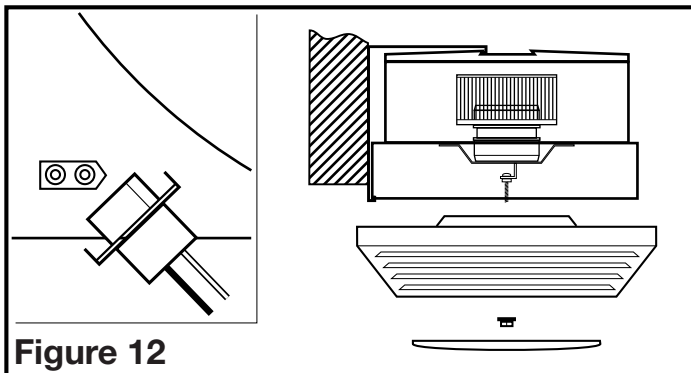

Figure 12
4. After the reflector bolt is secure, raise the grill/reflector up into position and plug the reflector into the appropriate receptacle. Secure the assembly to the reflector bolt using the acorn nut and lock washer. Install the included 26 watt fluorescent lamp into the lamp holder by lining up the pins on the lamp base to the socket of the lamp holder and turning the lamp body clockwise until the lamp snaps into place and is firmly seated in the lamp holder (Figure 12).